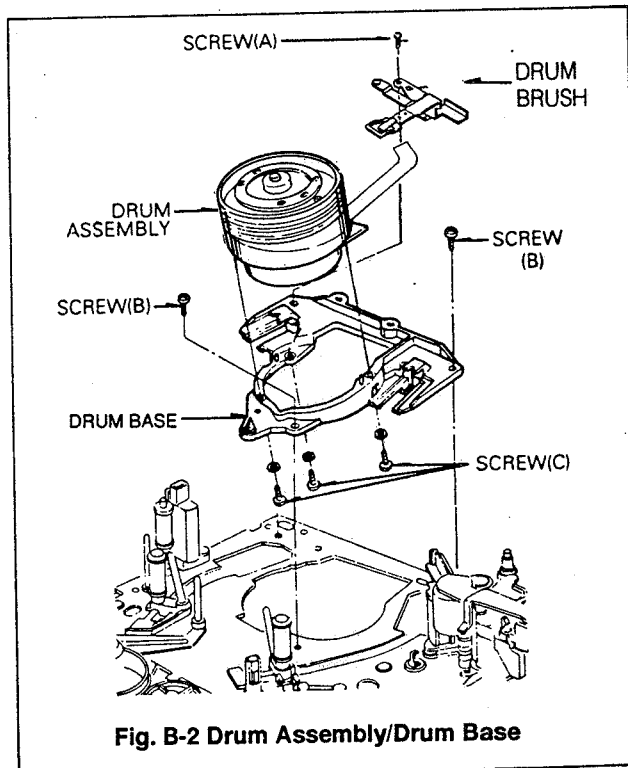

Fig. B-2 Drum Assembly/Drum Base
2. Drum Assembly and Drum Base(Fig. B-2)